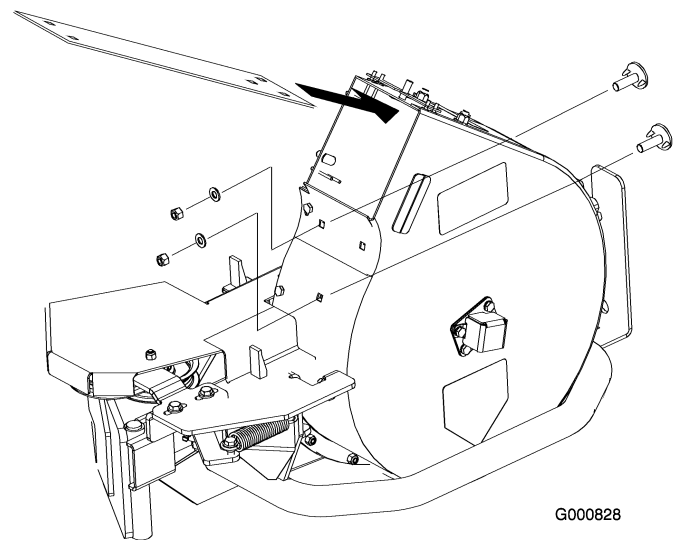
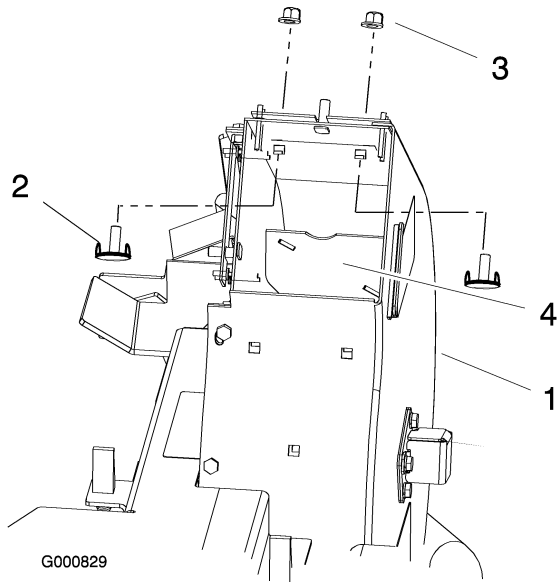

Figure 1
Figure 2
3. Remove the five bolts that hold the blower liner to the blower (Figure 1 and Figure 2). Discard the hardware.
4. Pull the liner out of the blower (Figure 1).
7. Secure the liner to the rear of the blower with 3 fanged elevator bolts (5/16 x 1 inch), flat washers and locknuts (5/16 inch) (Figure 1).
- Install 2 fanged elevator bolts (5/16 x 1 inch), flat washers and locknuts (5/16 inch) into the liner and the blower (Figure 2).